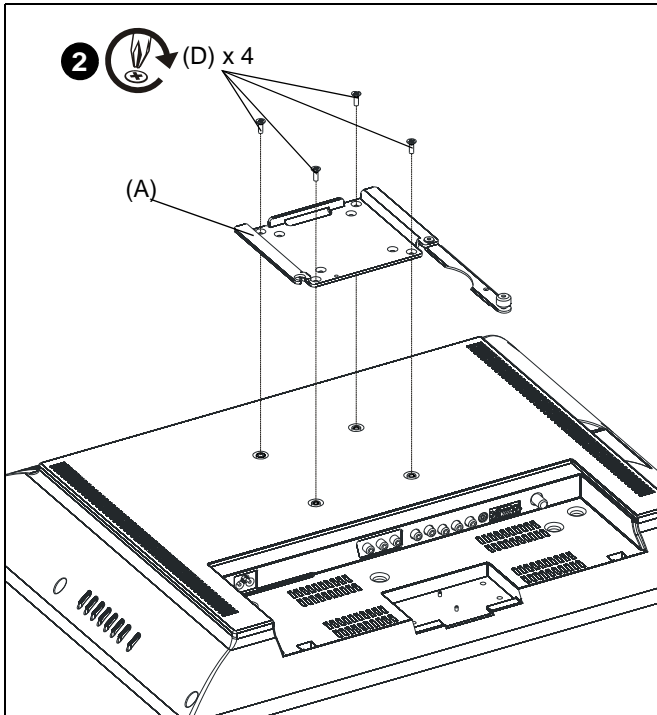

Figure 1
2. For non-recessed mounting holes, install four M4 x 12mm Phillips flathead machine screws (D) through corresponding bracket holes and into holes on back of display. (See Figure 1)